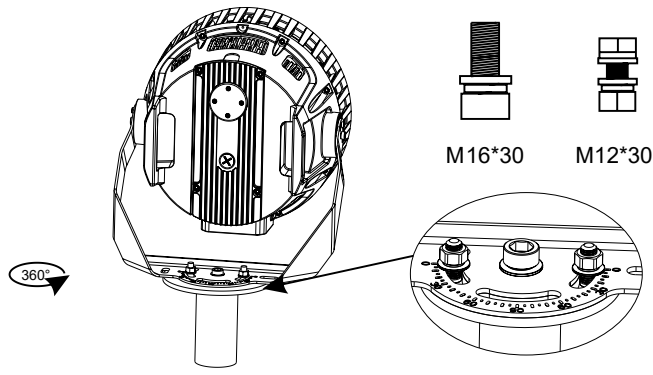

Figure 11
2. According to the need to adjust the lighting direction, it can be 360 degrees of rotation adjustment and then tightened with screws when the adjustment is completed (Figure 11).